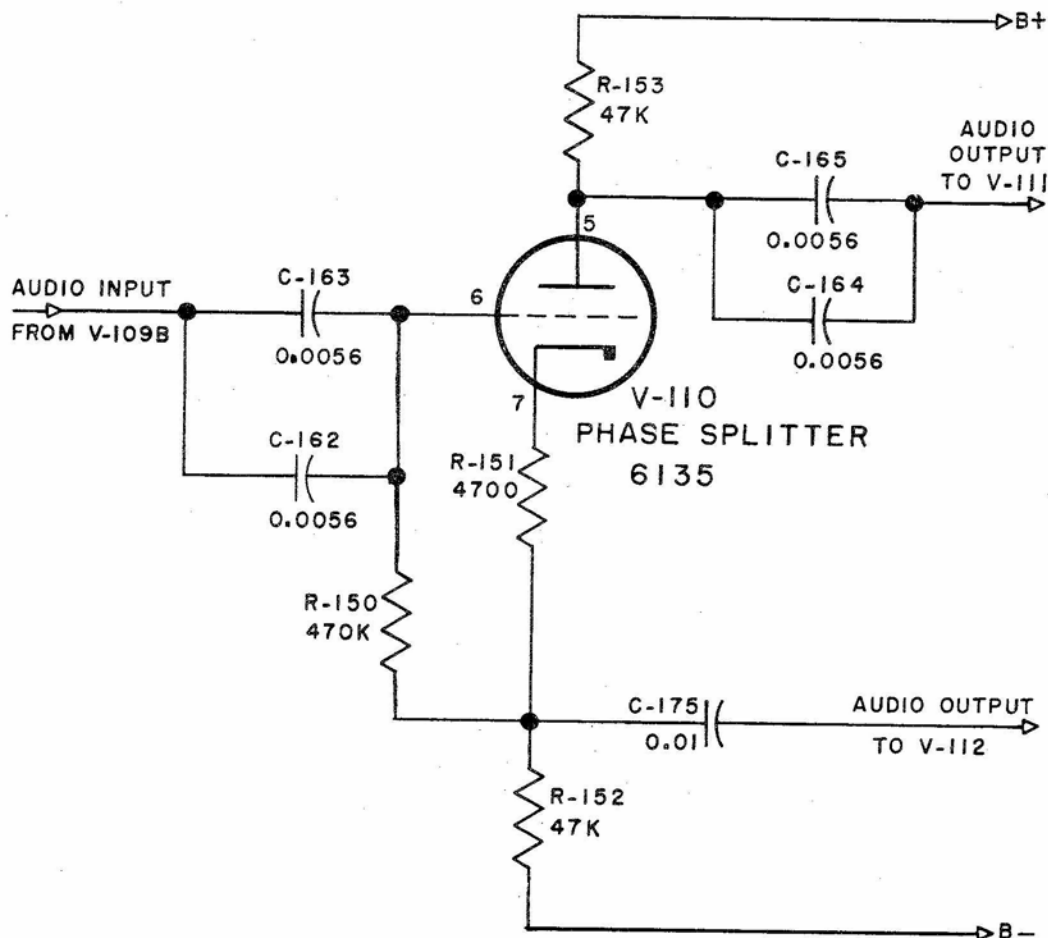

Figure 2-9. Phase Splitter V-110, Simplified Schematic Diagram
j. PHASE SPLITTER V-110 CIRCUIT DETAILS. (See Figure 2-9.)—In order to provide push-pull audio output from the receiver the audio signal must be separated into two signals which are identical in shape and amplitude but opposite in phase. This is the function of phase splitter V-110, a type 6135 triode.